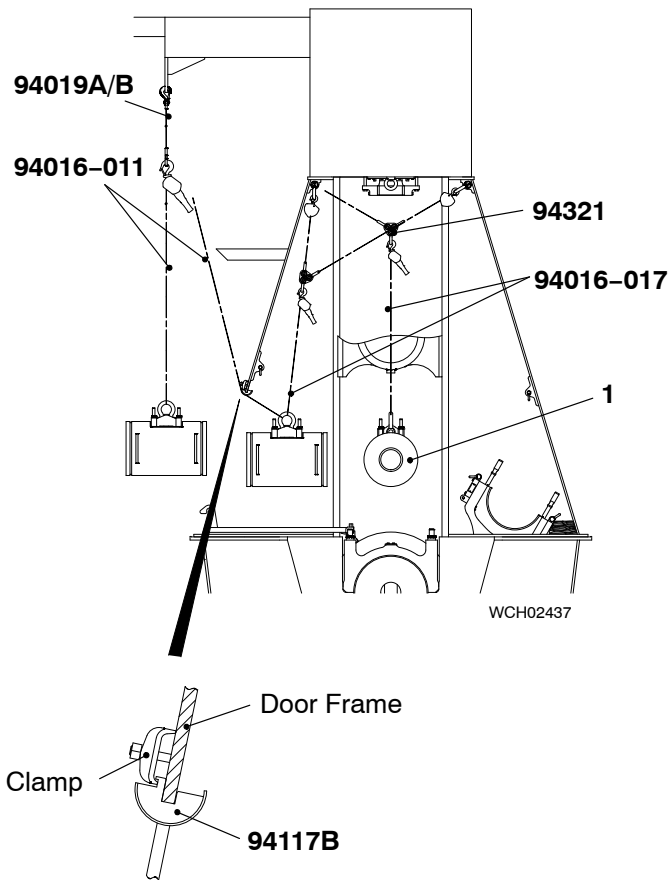

Fig. 7
- 45) Attach the protection tool (94117B, Fig. 7) to the door frame.
- 47) Attach the manual ratchet (94016-017) to the chain (94019A/B) and the eye bolt on the crosshead (1).
- 48) Turn the crosshead pin (1) 90°.
- 49) Move the crosshead pin (1) through the door frame as follows:
- c) Remove the manual ratchets (94016-011 and 94016-017) from the eye bolt on the crosshead pin (1).